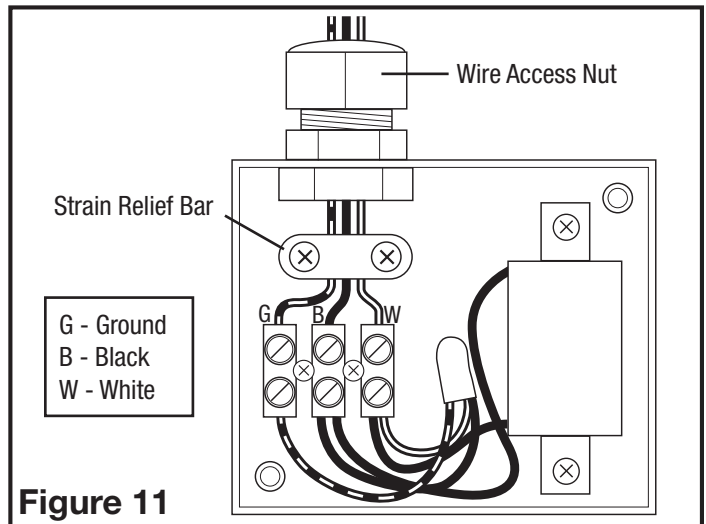

Figure 11
2. Run wiring from an approved wall switch carrying the appropriate rating. One neutral (white) one hot (black lead connected to the switch) and one ground (green or bare wire). Loosen the wire strain relief bar and run the wires through the wire access nut and the strain relief, making sure to leave enough wire to make all electrical connections (Figure 11).
3. Insert the white wire from the house into the terminal strip with the white wire and tighten using a small regular screwdriver. Insert the black wire from the wall switch into the terminal strip with the black wire and tighten using a small regular screwdriver. Insert the green (or bare) ground wire from the house into the terminal strip with the green wire and tighten using a small regular screwdriver (Figure 11).
4. Tighten the screws holding the strain relief bar in place. Also tighten the wire access nut. This will create a water-resistant seal (Figure 11).